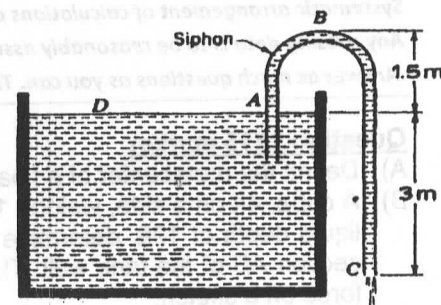

Fig.5
- In the siphon shown in fig. 5, with diameter of 20 cm, what are the pressures of water in the siphon at A and at B and what is the flow rate at C. Neglect all losses.